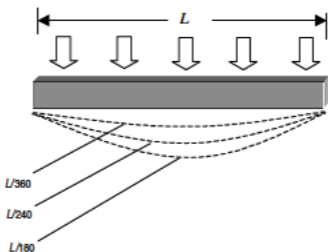

Figure 4-15 DESIGNED DEFLECTIONS
- Total load values are limited by shear, moment, or total load deflection equal to $L/240$ (refer to Figure 4-15 on page 55).
the stronger they must be. The deflection is expressed as a fraction of the span length L , such as $L/180$, $L/360$, or $L/240$ (Figure 4-15). The maximum allowable deflection is determined by taking the length of the clear span and dividing that number by the denominator, usually 180, 240, or 360.
Refer to Tables 4-10 through 4-17 for floor joist span specifications for live loads of 30 psf and a maximum allowed deflection of $L/360$ (see Figure 4-15). Tables 4-18 to 4-25 give span tables for 40 psf live loads. Note that span tables in this book have been simplified.